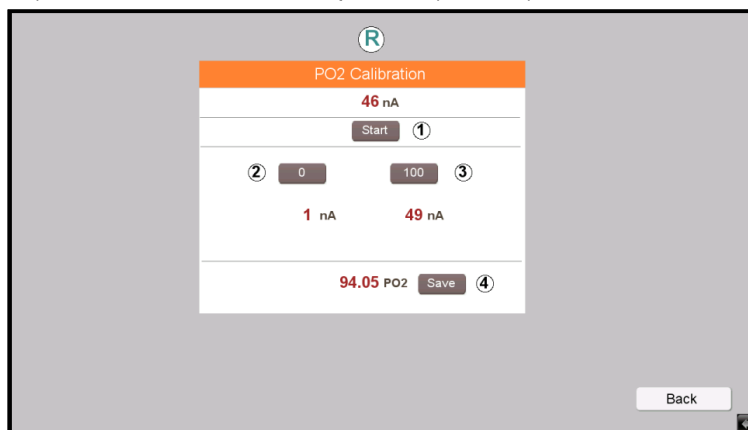

Figure 0.5. pO₂ calibration wizard
- 1) Use the access path **MENU** → **CALIBR.** → **pO₂**, to open the pO₂ calibration wizard (see Figure 0.5)